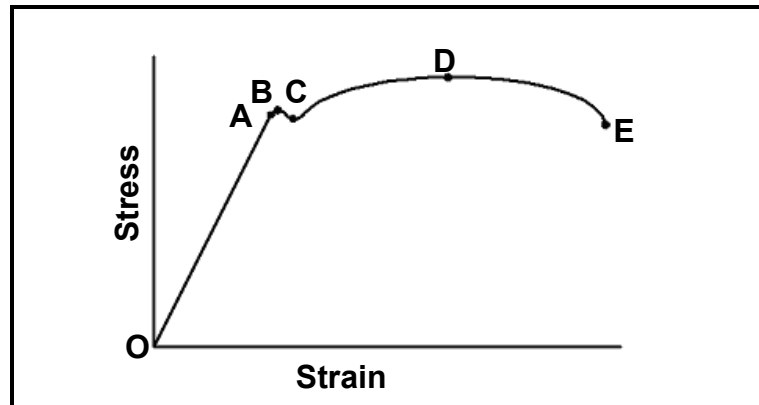

FIGURE 1.12
- 1.12 What does point **D** represents on the graph in FIGURE 1.12 below regarding the stress and strain?